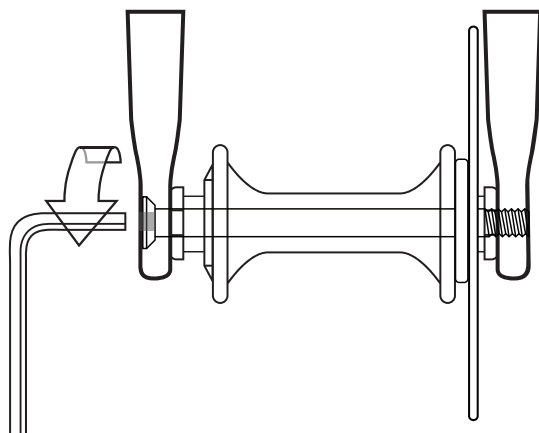
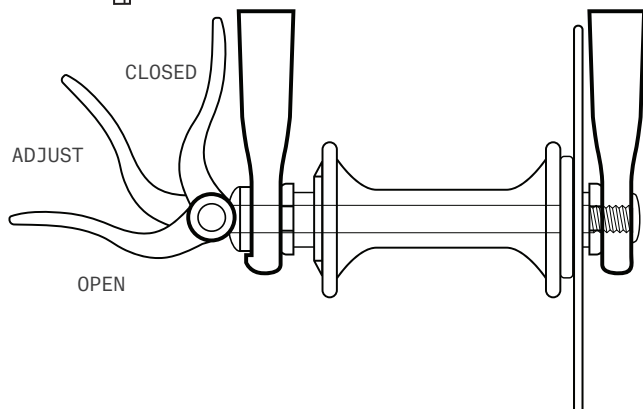

fig.12a
fig.12b
a. Adjusting the thru axle mechanism (fig.12a & 12b)
The thru axle is inserted through the unthreaded hole in the frame or fork's dropout, through the wheel hub, and is threaded directly into the opposing dropout by tightening the thru axle. Common installation methods may use an Allen hex key (fig.12a) or a cam lever (fig.12b). Please refer to the manufacturer's instructions for specific information about your thru axle's operation, including correct torque specifications or lever adjustment information.
- 4) If your bike has a thru-axle front wheel mounting system (figs. 12a & 12b), loosen and remove the thru axle according to the manufacturer's instructions, then remove the front wheel.
- c) With a thru axle system, tighten the thru axle (figs. 12a & 12b) according to the manufacturer's instructions.
- 5) If your bike has a thru-axle rear wheel mounting system (figs. 12a & 12b), loosen and remove the thru axle according to the manufacturer's instructions.